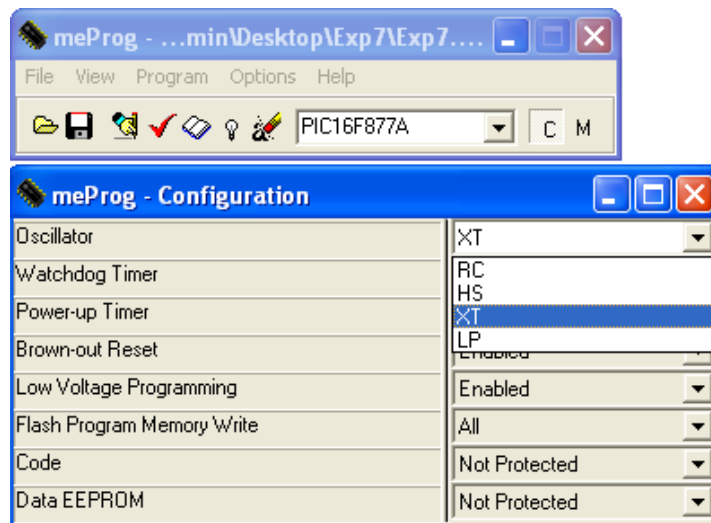

Figure 9 Configuration Dialog
Step 3: Press **View** on the main menu and chose **Configuration**, a window will appear as shown in (Figure 9), chose the oscillator to XT (crystal), keep the other parameters values.